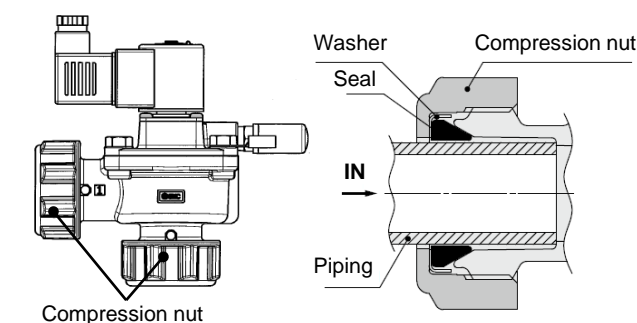

Fig.2
- Insert the piping into the valve body until it stops to prevent misalignment of the piping in relation to the valve body, see Fig.2.